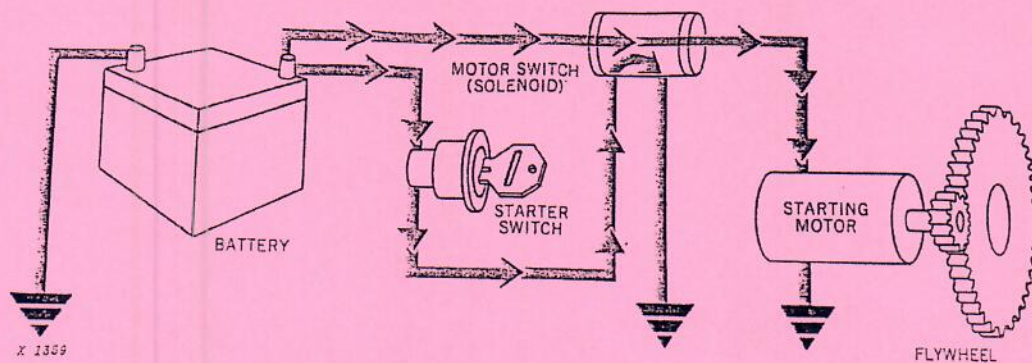

Figure 2 Basic starting circuit for an internal combustion engine
- c) Figure 2 shows electrical connections that rotate the starter motor to drive the engine flywheel. Measurements show that the engine's internal resistance of 240 Nm is overcome when the starter motor rotates the engine flywheel at 100 rpm before combustion takes place. Determine